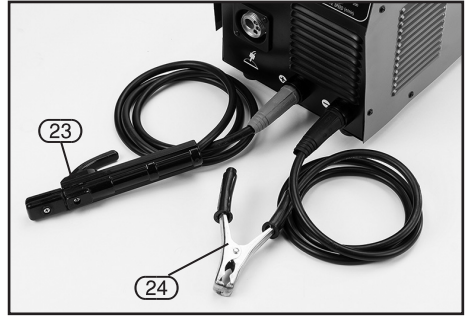

FIG.3
8.4 MMA (MANUAL METAL ARC) - FIG. 3